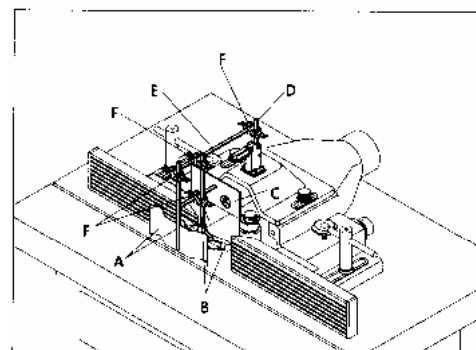

Fig.3.25
1. Assemble spring guard (A) Fig.3.25, hold-down (D) and clear plastic guard (C) to mounting rod (D) located on top of fence cover or fence body using rod (E) and clamps.
2. The spring guard (fence pressure pad) (A), hold-down (table pressure pad) (B) and clear (C) can be flipped up out of the way when not in use or when making adjustments.